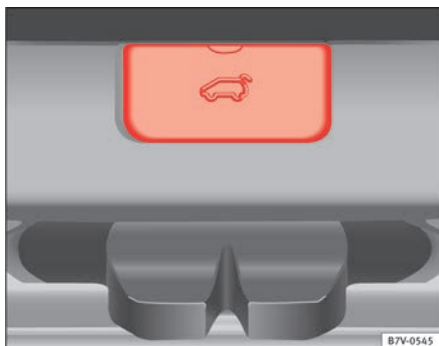

Fig. 191 From the luggage compartment: Remove the tailgate cover.
- Remove the square cover in the inner trim of the tailgate ⇒ fig. 191.